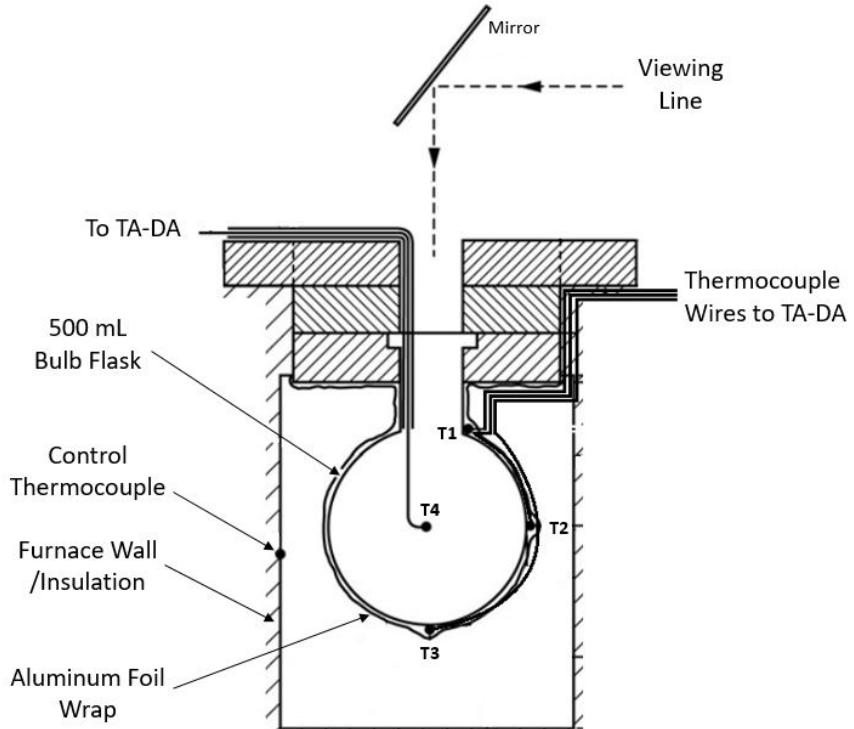
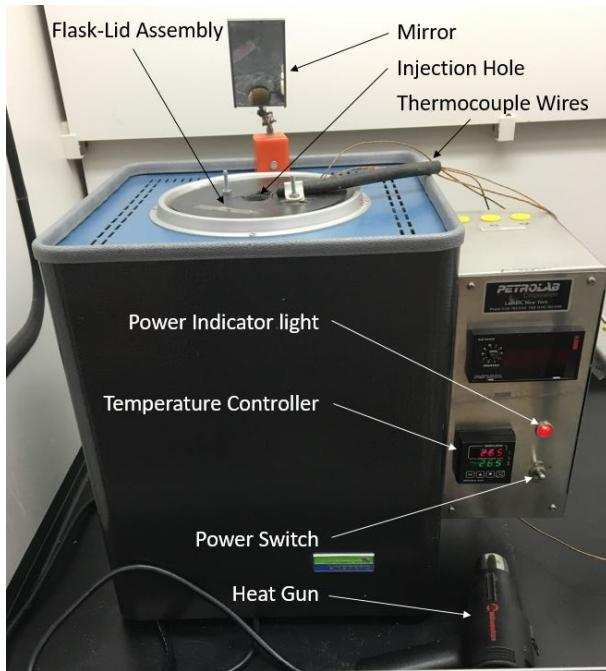

Figure 12: Diagram of the furnace when assembled
Figure 14: AIT Furnace
- The final setup should resemble Figure 12
- The furnace, shown in Figure 14, is an encased stack of ceramic insulation with cavities cut out to allow space for the heating elements and the test flask (see Figure 12 for an internal diagram of the furnace). The furnace is controlled with measurements taken at the insulated furnace wall. This design causes the furnace to have large temperature gradients while in operation. As a result, the setpoint temperature and the flask temperature will almost always differ significantly (as much as 25 K in some cases). Therefore, setpoints must be chosen between approximately 10 - 20 K above the desired temperature to reach that temperature inside the flask. **The reported AIT must be taken from the internal flask temperature (Thermocouple 4) and NOT the control thermocouple inside the furnace**
5.2.2 Furnace Operation (See Figure 14)